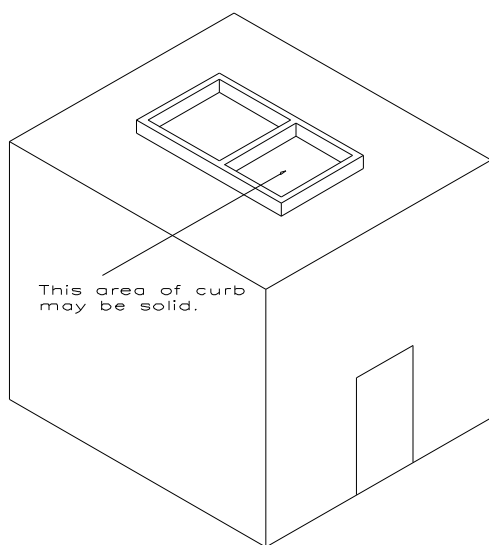

Figure 4. Curb placed on roof of box.
1. Units must be curb mounted (Figure 4 ~ 5). Cabinet size refer to dimension size on page 5.